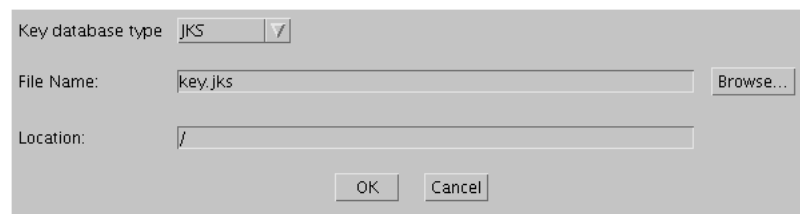

Figure 4-2 Create new key database screen
3. Select **Key Database File** and then **New**. A window similar to the one in Figure 4-2 will appear.